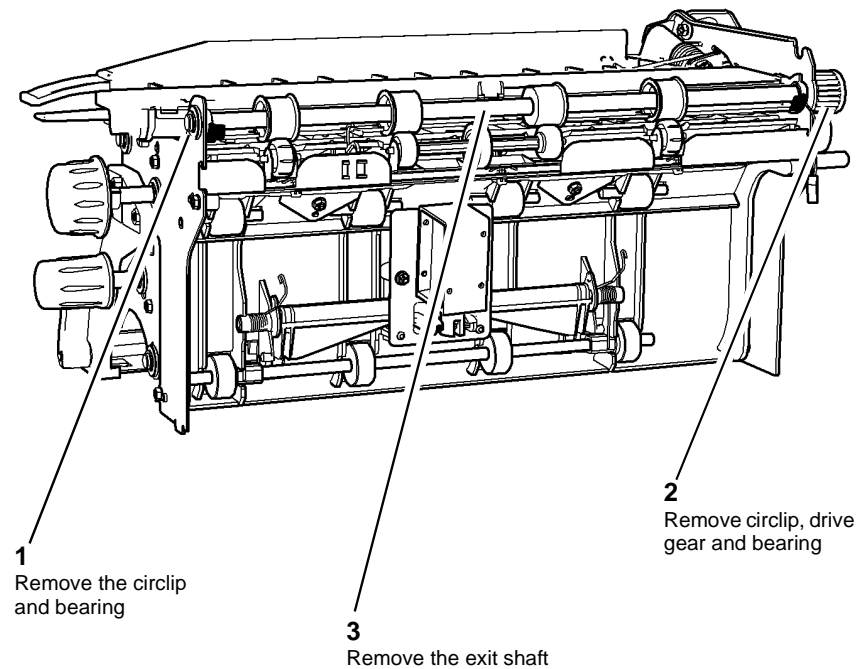

Figure 1 Exit shaft assembly 35-55 ppm
- Remove the exit shaft assembly, (35-55 ppm) Figure 1, (65-90 ppm) Figure 2.